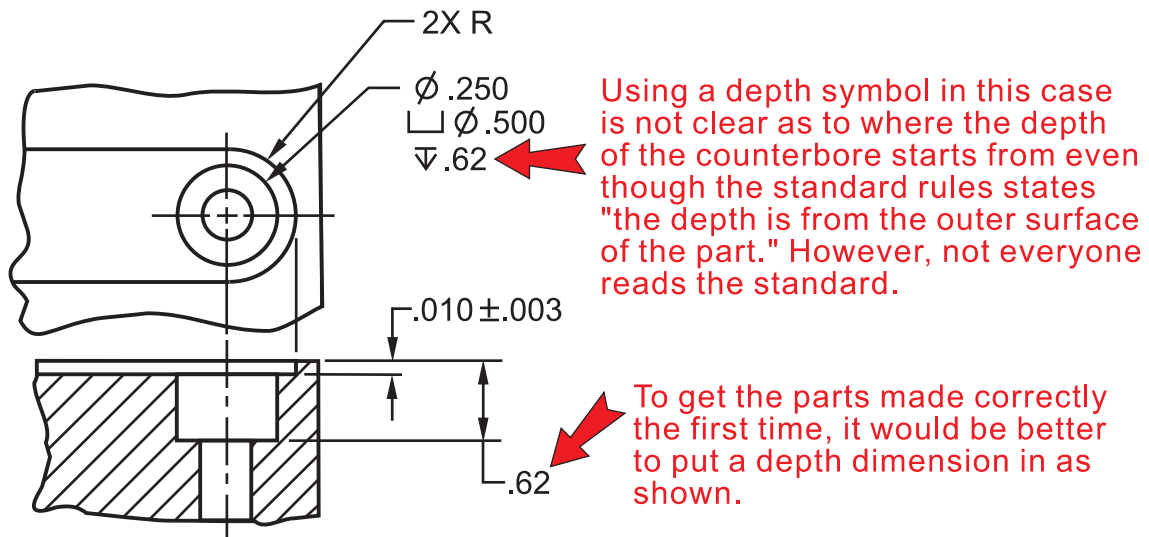

Figure 10
- C. The depth of a hole is understood to be from the outer surface of the part unless a dimension specifies otherwise. See Figure 10.